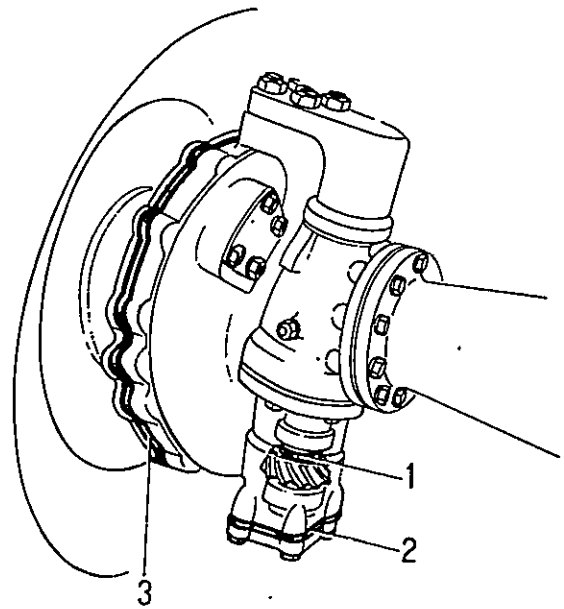

Fig. 4-20 Adjustment and inspection of the backlash and the impression of the final drive bevel gears.
3. The adjustment and inspection of the backlash and the impression of the final drive bevel gears (Fig. 4-20).